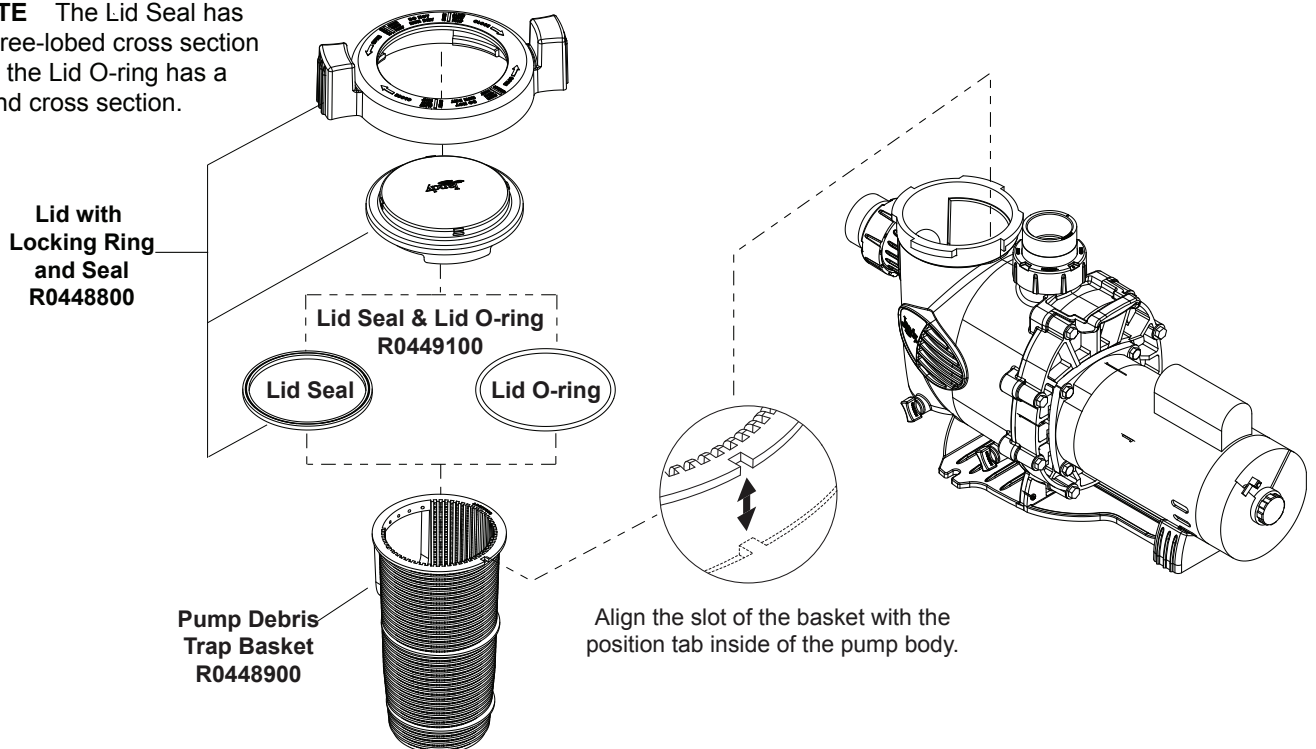

Figure 1. Exploded View of PHP, WFTR, and MHP Pump Parts
These replacement kits are designed to be used with both newer and older model Jandy PHP, WFTR, and MHP Pumps. Refer to Figure 1 and the parts list on this page to identify the parts in each kit.
4. Place the new pump debris trap basket into the pump. Make sure that the slot of the basket is aligned with the positioning tab inside the pump housing. (See Figure 1.) If aligned properly, the basket will drop easily into place. **Do not force it into place.**